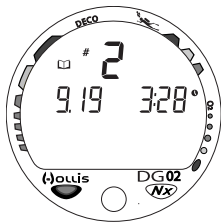

Fig. 63 - Log Preview
- The Log Preview screen (Fig. 63) of the most recent dive conducted will appear displaying the Log icon, Dive #, Date of the dive (month.day), and Time of Day the dive started.